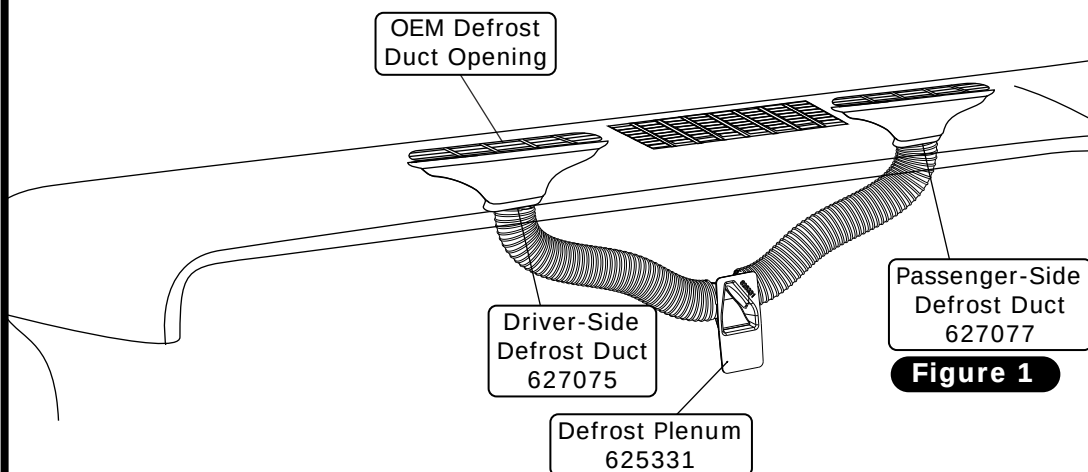

Figure 1
4. For preliminary preparation, install the defrost plenum along with the 2" duct hoses at their given lengths (See Figure 1, below). **NOTE: Refer to the Duct Hose Routing, Page 30, for more information in regards for measure and cut procedures.**